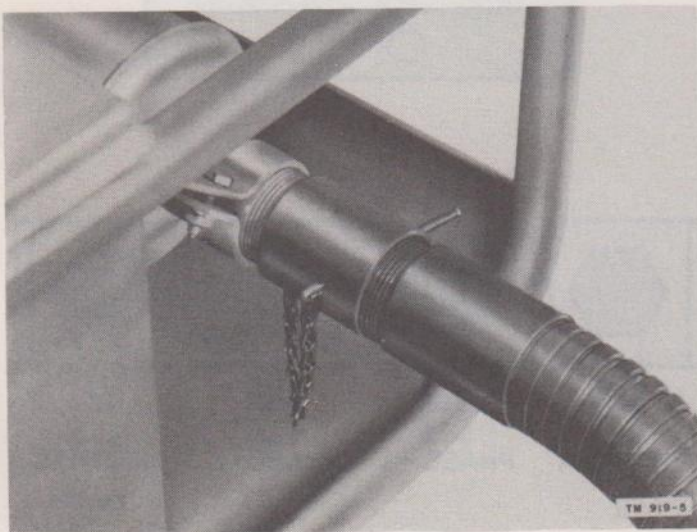

Figure 5. Exhaust tube connection to muffler.
b. CONNECTING EXHAUST TUBE. For indoor operation connect the exhaust extension tube to the muffler as shown in figure 5. Extend the tube to an exterior wall using the most direct route with as few turns as possible. All connections must be gastight. Pitch the tube downward so all condensate will drain out. If the tubing passes through an inflammable wall, install appropriate fireproof insulation.